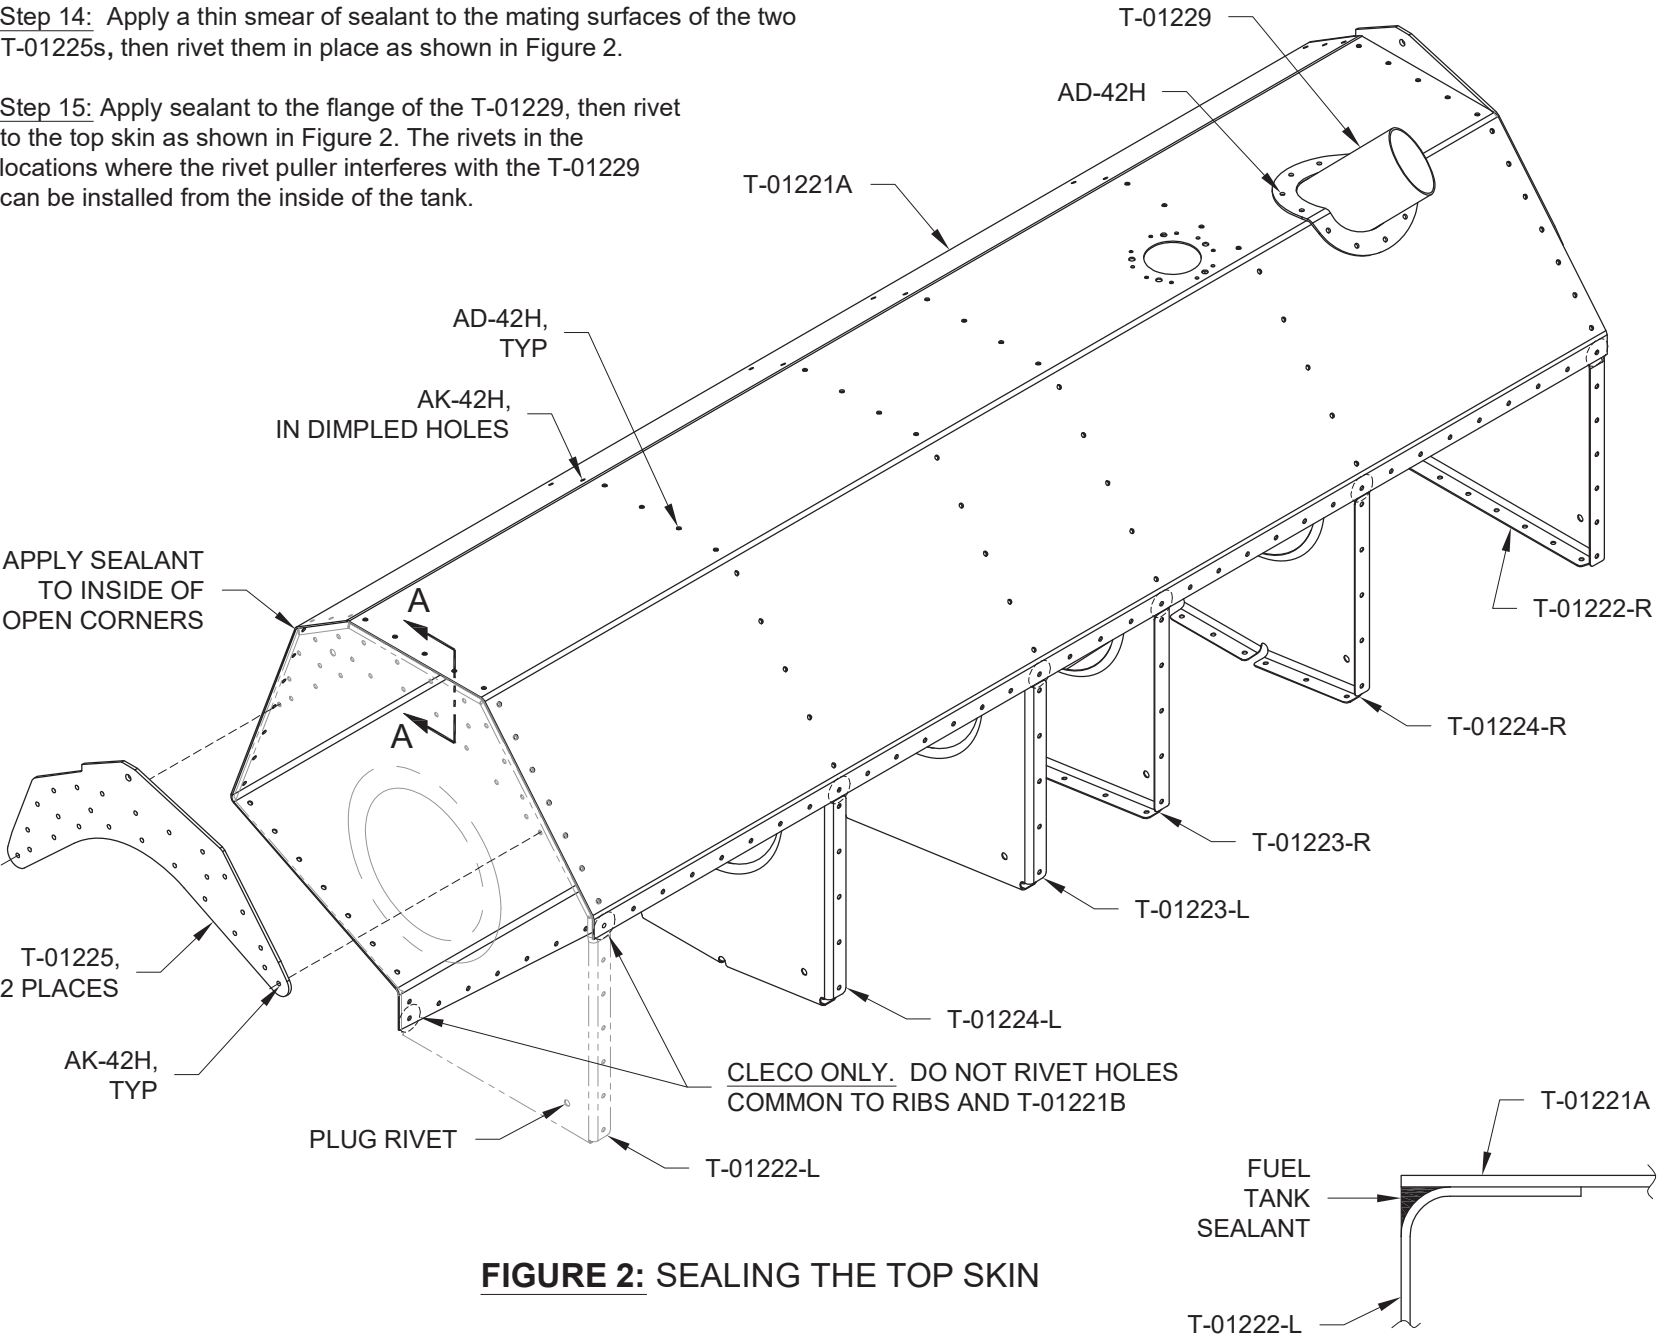

FIGURE 2: SEALING THE TOP SKIN
Step 12: Apply a glob of sealant to plug every open corner in the T-01222-L & -R Outboard Ribs that is common to the top skin. See Figure 2.
Step 14: Apply a thin smear of sealant to the mating surfaces of the two T-01225s, then rivet them in place as shown in Figure 2.
Step 15: Apply sealant to the flange of the T-01229, then rivet to the top skin as shown in Figure 2. The rivets in the locations where the rivet puller interferes with the T-01229 can be installed from the inside of the tank.